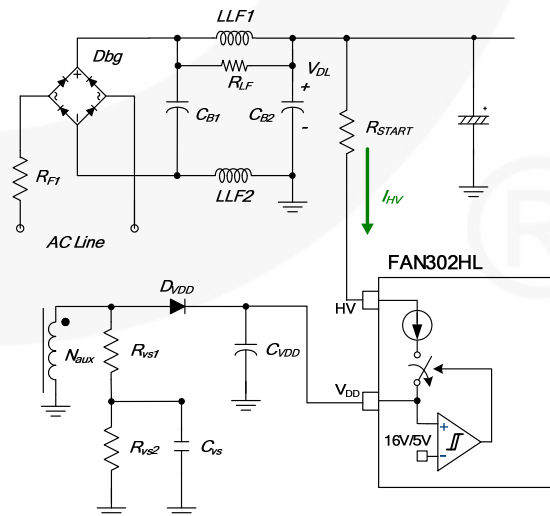
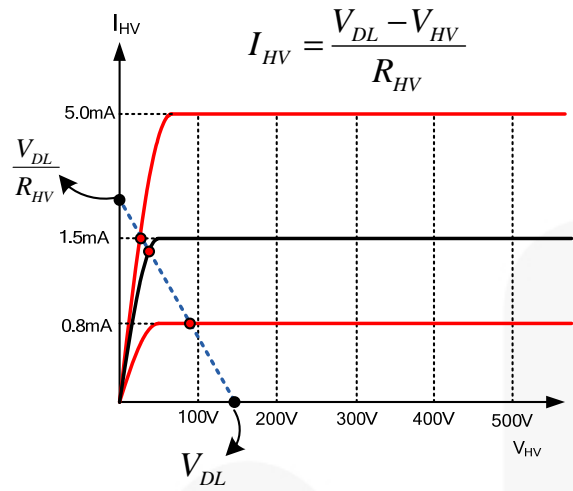

Figure 33. HV Startup Circuit
Figure 34. V-I Characteristics of HV Pin
Figure 33 shows the high-voltage (HV) startup circuit. Internally, JFET is used to implement the high-voltage current source, whose characteristics are shown in Figure 34. Technically, the HV pin can be directly connected to the DC link (V_{DL}). To improve reliability and surge immunity, it is typical to use about a 100 k Ω resistor between the HV pin and the DC link. The actual HV current with given DC link voltage and startup resistor is determined by the intersection of V-I characteristics line and load line, as shown in Figure 34.